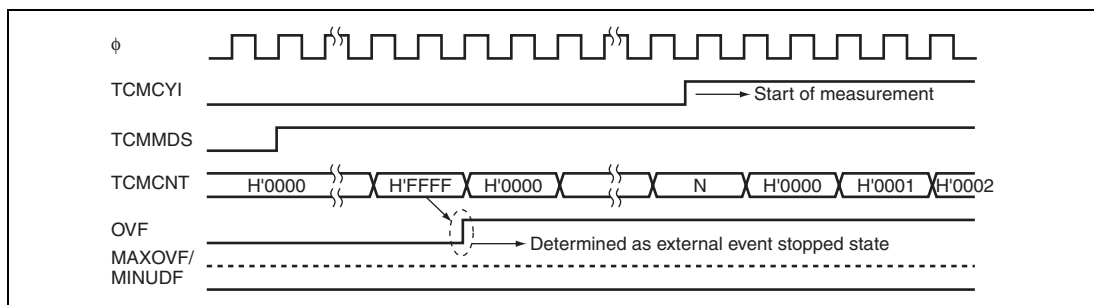

**Figure 11.10 Example of Timing in External Event Stopped State (1)**
Figure 11.10 shows an example of the timing of the external event stopped state (1).